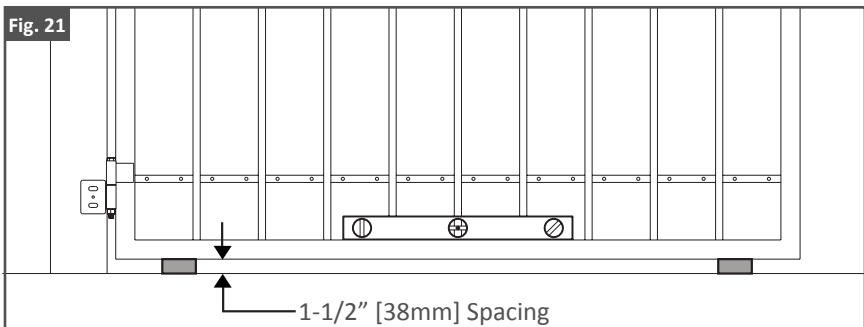

Fig. 22
3. With the Estate Hinges mounted on the post, mark the desired bolt hole locations on both sides of the post inside the Estate Hinge slot holes. As shown in Fig. 22. **Be sure each bolt hole location is marked on the edge of the slot hole closest the gate panel. This will allow for adjustment when installing the gate panel in step 3.**